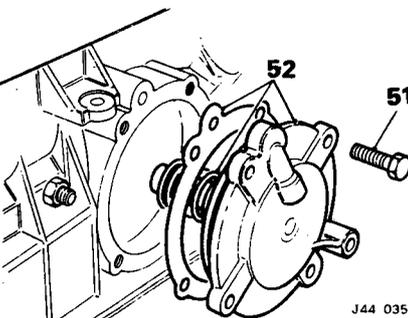

Fig. 34
51. Remove the bolts securing the front servo to transmission case (Fig. 34).
52. Withdraw the front servo, operating rod and spring; remove and discard the gasket (Fig. 34).